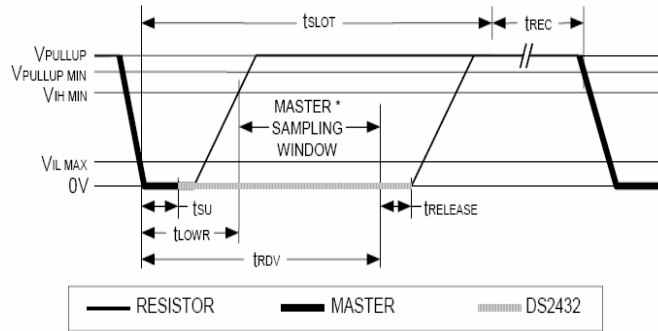

Fig4-98 - Read-data Time Slot
- (1) To initialize Write Data, Master will convert the Data Line from the high logic to the low.
- (2) There are two types of Write time slot: Write 1 time slot and Write 0 time slot.
- (3) During a write cycle, all Write time slots must have duration of at least 60us and a recovery period of 1us.
- (4) When the I/O line goes down, Slave devices create samples from 15-60 us.
A. Write 0: If the sampling is low, 0 is generated as in Fig4-98: